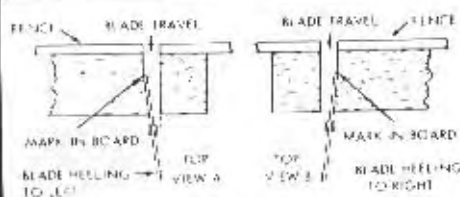

Figure 15
2. If a gap exists between the saw blade and the square, one of two types of "heel" exists. The two types of "heel" are illustrated in views "A" and "B", figure 15. To correct for either type of "HEEL" condition, proceed as follows: